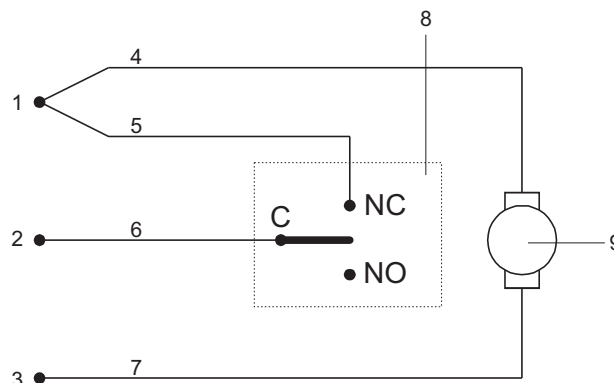
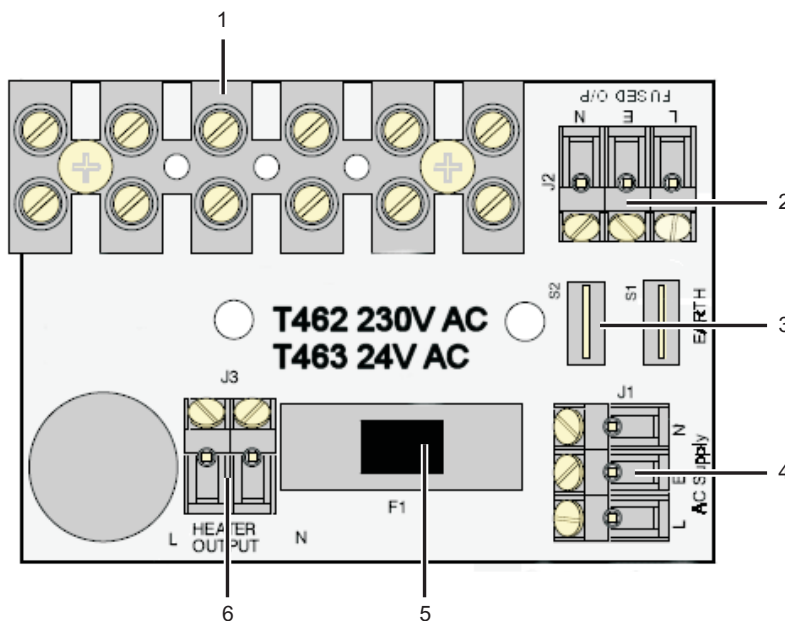

Fig. 5 Circuit diagram
Fig. 6 Terminal board connection details
3. Connect the drive unit to the terminal board in the chosen configuration; see Fig. 5 and Fig. 6 for the circuit diagram and details of the terminal board.